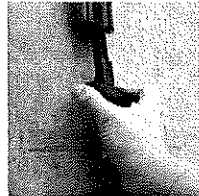

Fig 2
2. With the key inserted, pull the PushPull Rod a few centimetres out of the track (Fig 2).